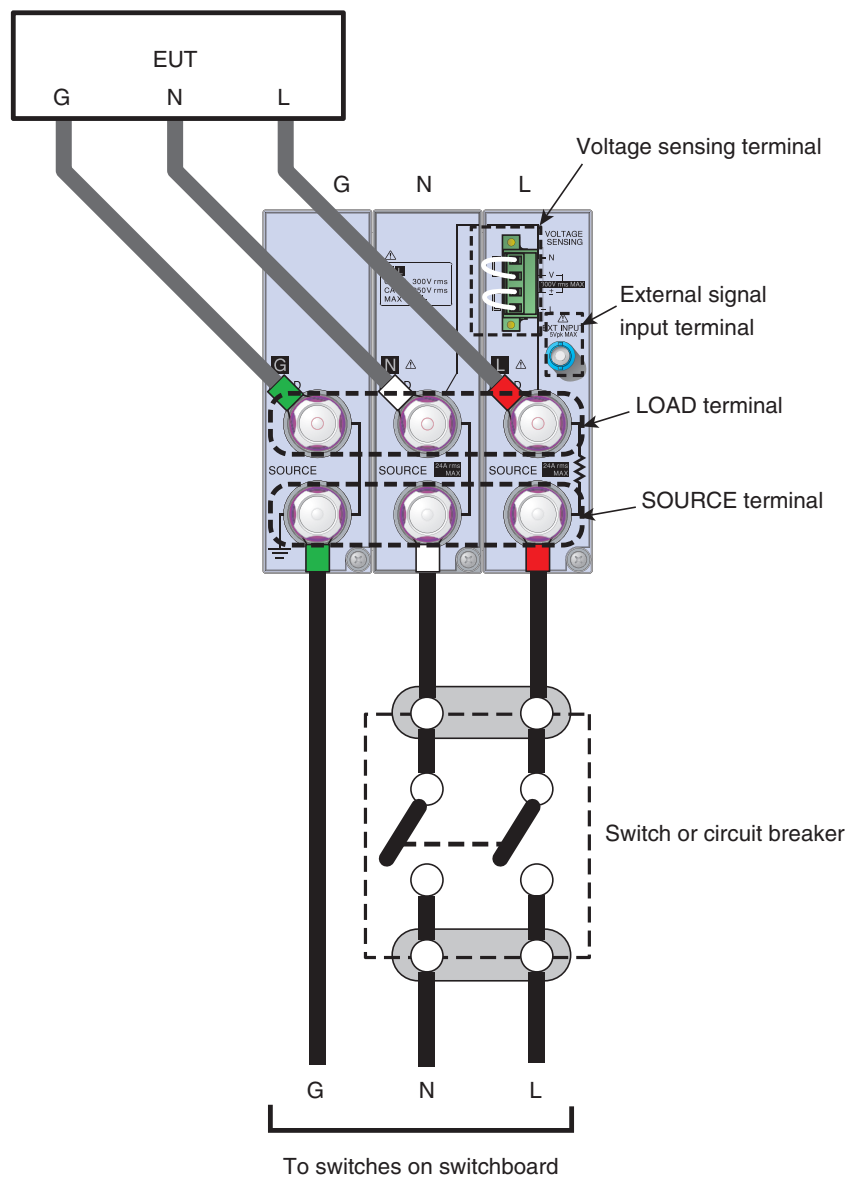

Fig.2-9 Switch or circuit breaker to be used for direct connection to commercial power supply (AC line)
In directly connecting the SOURCE terminal to the commercial power supply (AC line) without an AC power supply, such as when measuring rush current, use a switch or circuit breaker that can disconnect this product from the commercial power supply (AC line) (Fig.2-9) for safety.
3. As shown in Fig. 2-9, install the switch or circuit breaker between the SOURCE terminal and the commercial power supply (AC line).